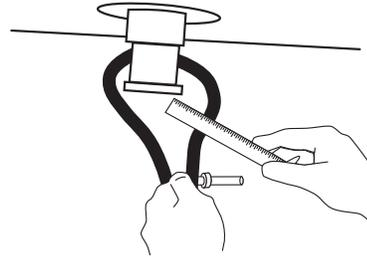

Figure 2. Measuring Kingpin
2. Check the kingpin for wear or damage. Replace it if the diameter measures less than 1 7/8" at any point (see figure 2).